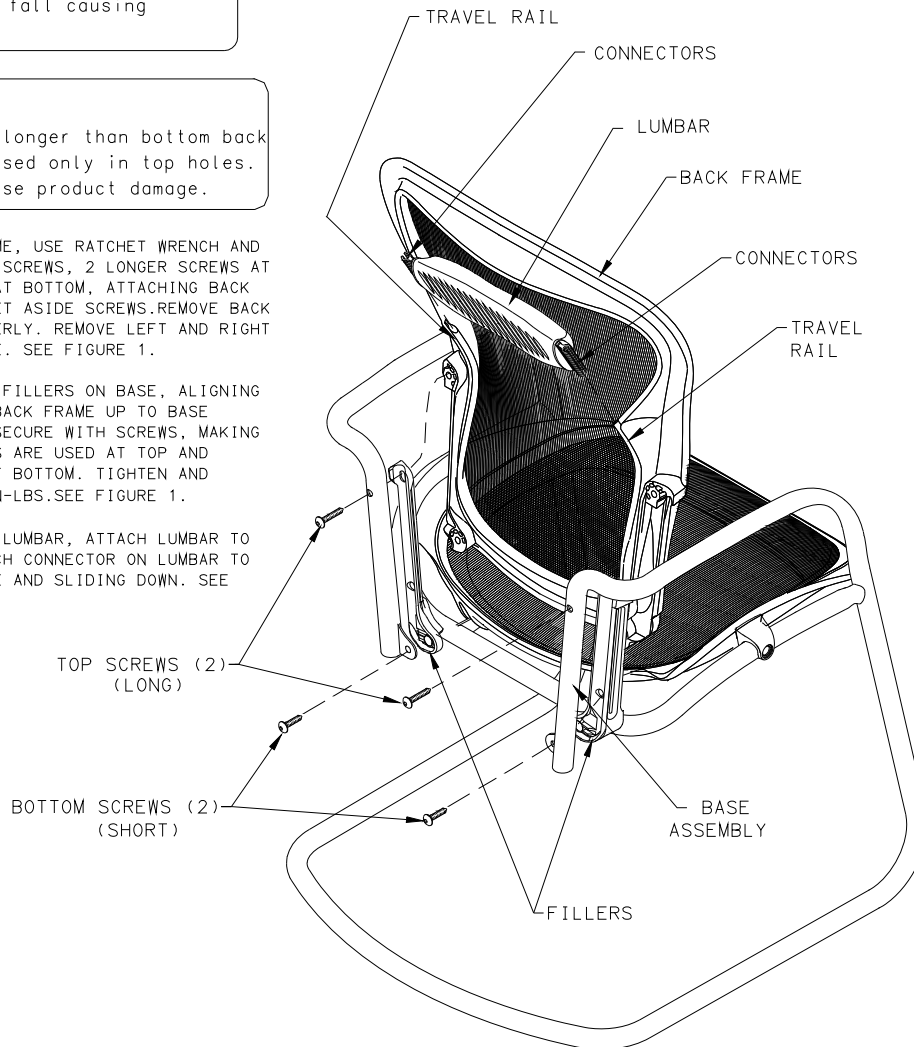

FIGURE 1
2. WHILE SUPPORTING BACK FRAME, USE RATCHET WRENCH AND 5MM HEX BIT TO REMOVE (4) SCREWS, 2 LONGER SCREWS AT TOP AND 2 SHORTER SCREWS AT BOTTOM, ATTACHING BACK FRAME TO BASE ASSEMBLY. SET ASIDE SCREWS. REMOVE BACK FRAME AND DISPOSE OF PROPERLY. REMOVE LEFT AND RIGHT HAND FILLERS AND SET ASIDE. SEE FIGURE 1.
3. PLACE LEFT AND RIGHT HAND FILLERS ON BASE, ALIGNING HOLES. PLACE REPLACEMENT BACK FRAME UP TO BASE ASSEMBLY ALIGNING HOLES. SECURE WITH SCREWS, MAKING CERTAIN THAT LONGER SCREWS ARE USED AT TOP AND SHORTER SCREWS ARE USED AT BOTTOM. TIGHTEN AND TORQUE SCREWS TO 70-100 IN-LBS. SEE FIGURE 1.
4. IF CHAIR IS EQUIPPED WITH LUMBAR, ATTACH LUMBAR TO BACK FRAME BY ENGAGING EACH CONNECTOR ON LUMBAR TO TRAVEL RAILS OF BACK FRAME AND SLIDING DOWN. SEE FIGURE 1.